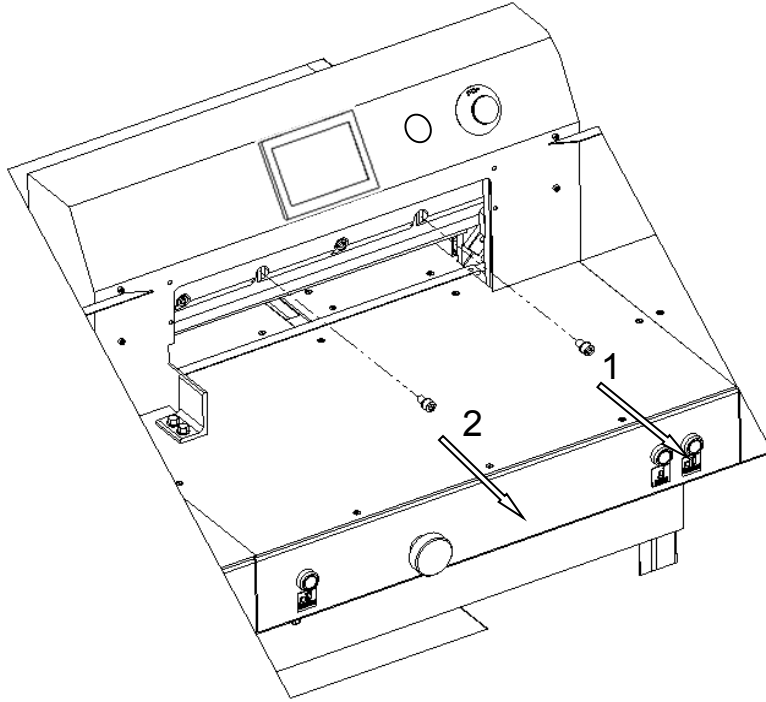
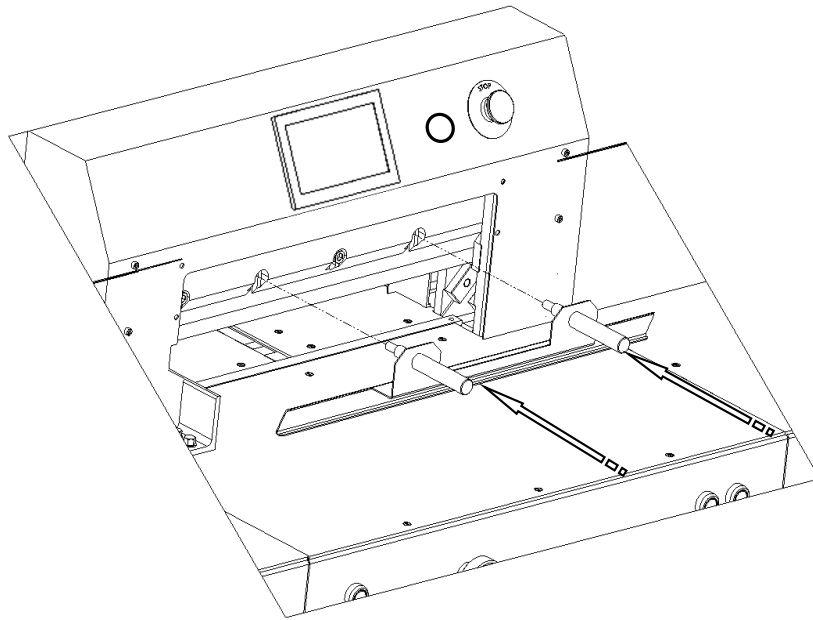

Figure 23.
Figure 24.
8.1.1.9 Unscrew and remove the fastening screws 1 and 2 (Fig. 23).
8.1.1.10 In the place of screws, 1 and 2 removed (fig.23), screw in the transport handle, 1 (fig.24, next page).